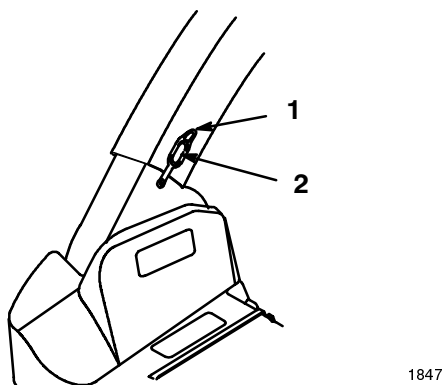

Figure 21
- Insert the upper end of the discharge tube into the bagger top. Slide the lower end of the discharge tube over the blower discharge opening (Fig. 21).
- Hook the rubber latch onto the knob (Fig. 21).